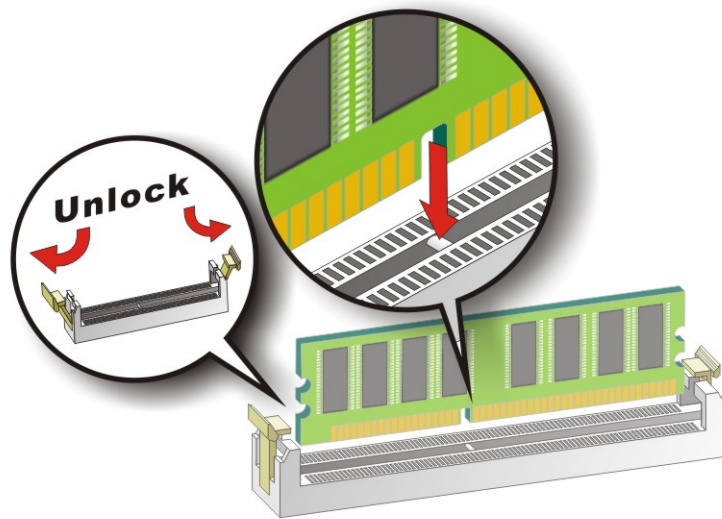

Figure 5-6: Installing a DIMM
To install a DIMM into a DIMM socket, please follow the steps below and refer to **Figure 5-6**.
- Step 1: Open the DIMM socket handles.** The DIMM socket has two handles that secure the DIMM into the socket. Before the DIMM can be inserted into the socket, the handles must be opened. See **Figure 5-6**.
in the socket. See **Figure 5-6**.
Step 3: Insert the DIMM. Once properly aligned, the DIMM can be inserted into the socket. As the DIMM is inserted, the white handles on the side of the socket will close automatically and secure the DIMM to the socket. See **Figure 5-6**.